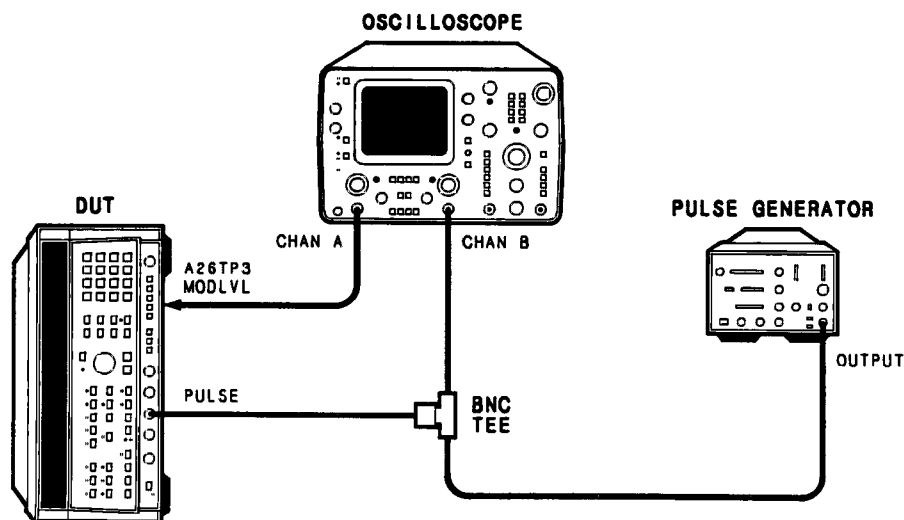

Figure 5-67. Pulse Modulation Rise and Fall Time Test Setup
16. Connect the instruments as shown in Figure 5-67.